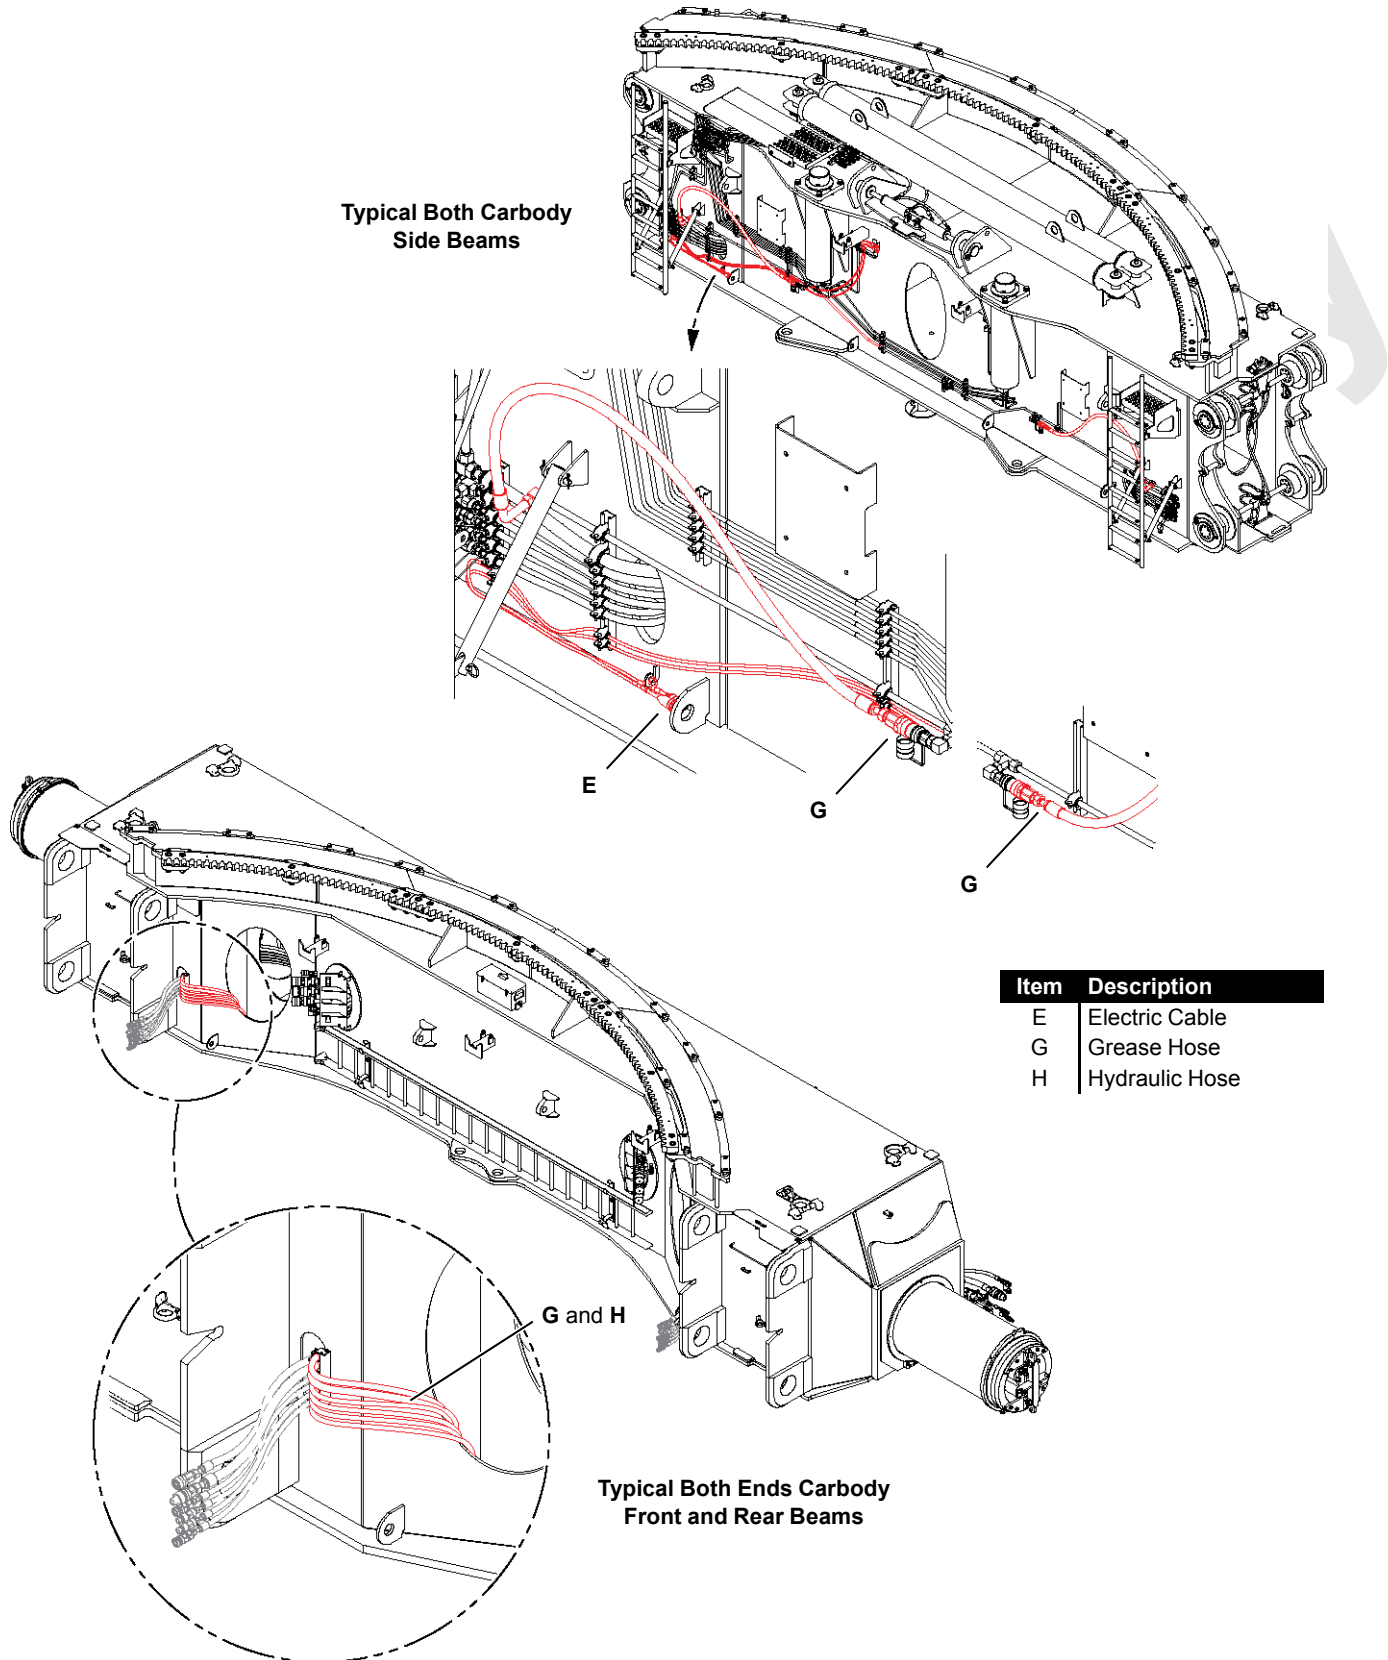

FIGURE 5-157
- a. Connect hydraulic jumper hoses (9, View C) between hydraulic couplers (8) at the desired end of the rear beam. The jumper hoses are stored in the PPU.
- Store the hoses as shown in Figure 5-157.
- Store the electric cable as shown in Figure 5-157.
4. Unpin and rotate locking plates (4, View B) out of the grooves in pins (3).
5. Start the PPU and disengage center beam pins (3, View B) using the control handles on inboard carbody control valve (5).
10. Rotate locking plates (4, View B) into the grooves in pins (3) and install the wire-lock pins.
9. Start the PPU and disengage side beam pins (5 and 6, View B) using the handles on outboard carbody control valve (4).
- a. Connect hydraulic jumper hoses (9, View C) between hydraulic couplers (8) at the end of the side beam. The jumper hoses are stored in the PPU.
FIGURE 5-157 continued